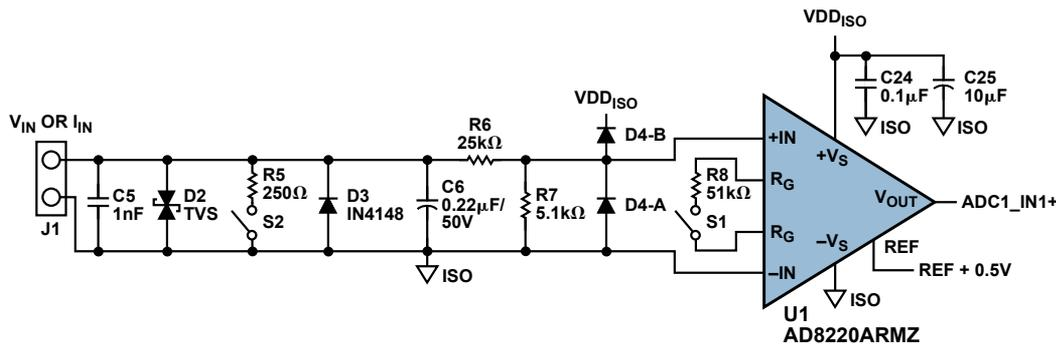

Figure 14. Analog input protection.
**Analog Input Protection:** The PLC board can accommodate both voltage and current inputs. Figure 14 shows the input structure. Load resistor R5 is switched in for current mode. Resistors R6 and R7 attenuate the input. Resistor R8 sets the gain of the AD8220.